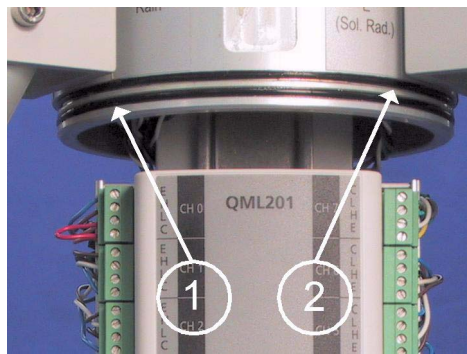
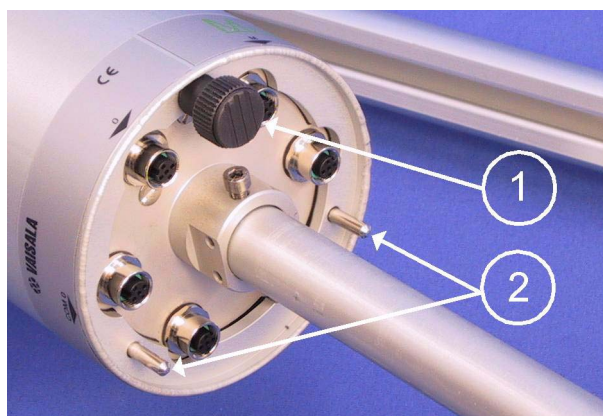

Figure 43 O-rings for Sealing the Tube
Figure 44 Hand Screw and Aligning Pins
6. To keep the tube watertight, the tube should cover the two O-rings (number 1 and 2 in Figure 43 on page 62) on the bottom of the upper base. Rotate the tube to find the aligning pins (number 2 in Figure 44 on page 62) position. Slide the tube up. Tighten it with the hand screw (number 1 in Figure 44 on page 62).